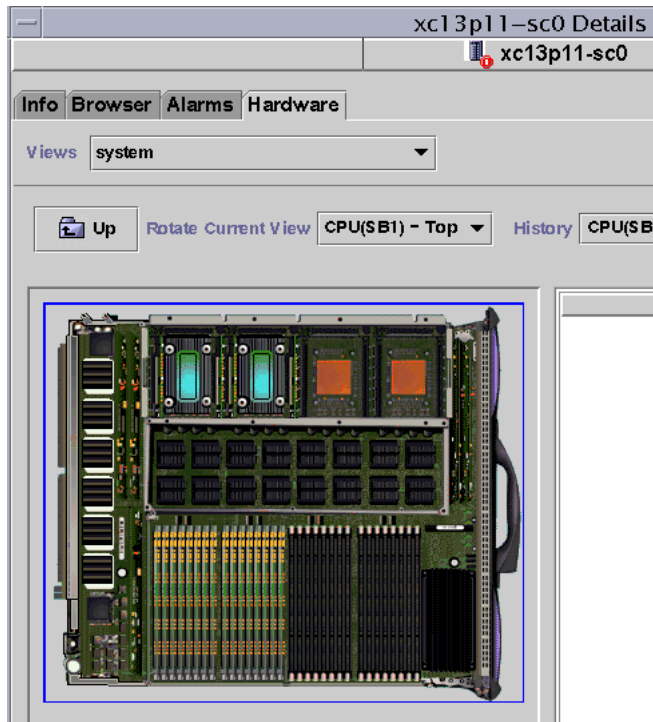

FIGURE 5-3 Top of CPU Board in Platform Physical View
5. Click on one of the CPU boards in the top slots of the Sun Fire high-end systems platform to display a Physical View of the top of a CPU board (FIGURE 5-3).